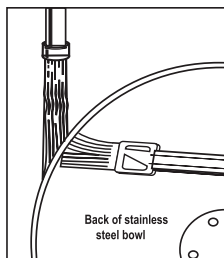
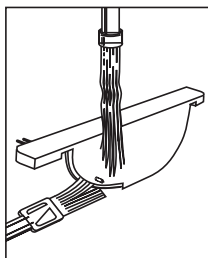
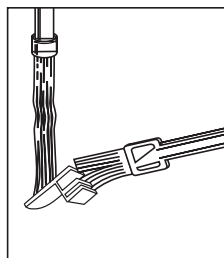

FIG. 1
FIG. 2
FIG. 3
- Use the provided cleaning brush for tight areas (see Figures 1–3).
- Clean behind the lip of the bowl (Fig. 1), the inside edge of the baffle (Fig. 2), and around the baffle clip (Fig. 3).